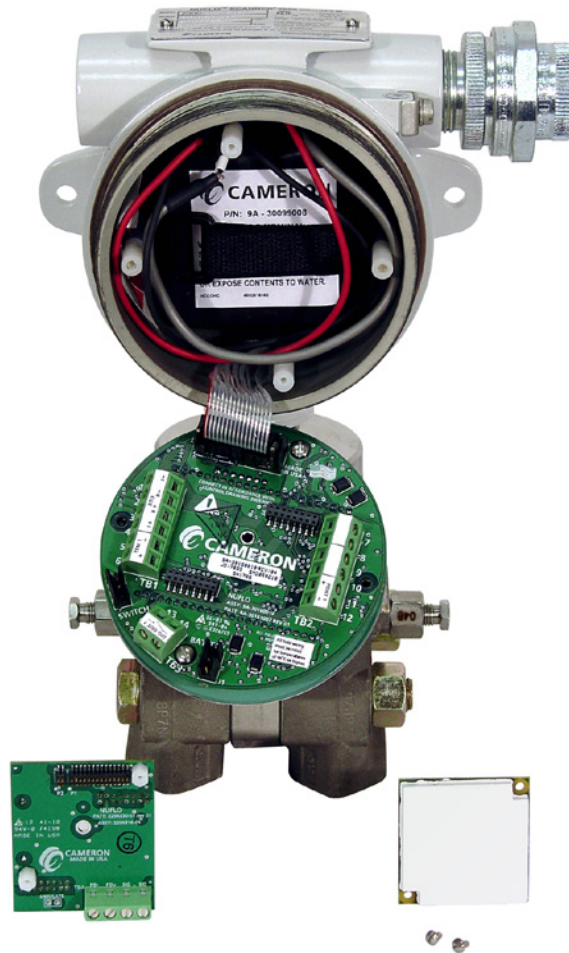

Figure C.11—Removal of the fieldbus interface board
9. The interface board is firmly connected to the main board with a plastic standoff. Using small pliers, squeeze the two halves of the standoff together while applying firm pressure to separate the interface board from the main board. Proceed with care to avoid bending the pins on the interface board. With the fieldbus module and the fieldbus interface removed, the main board will be in full view (Figure C.11, page C-20).